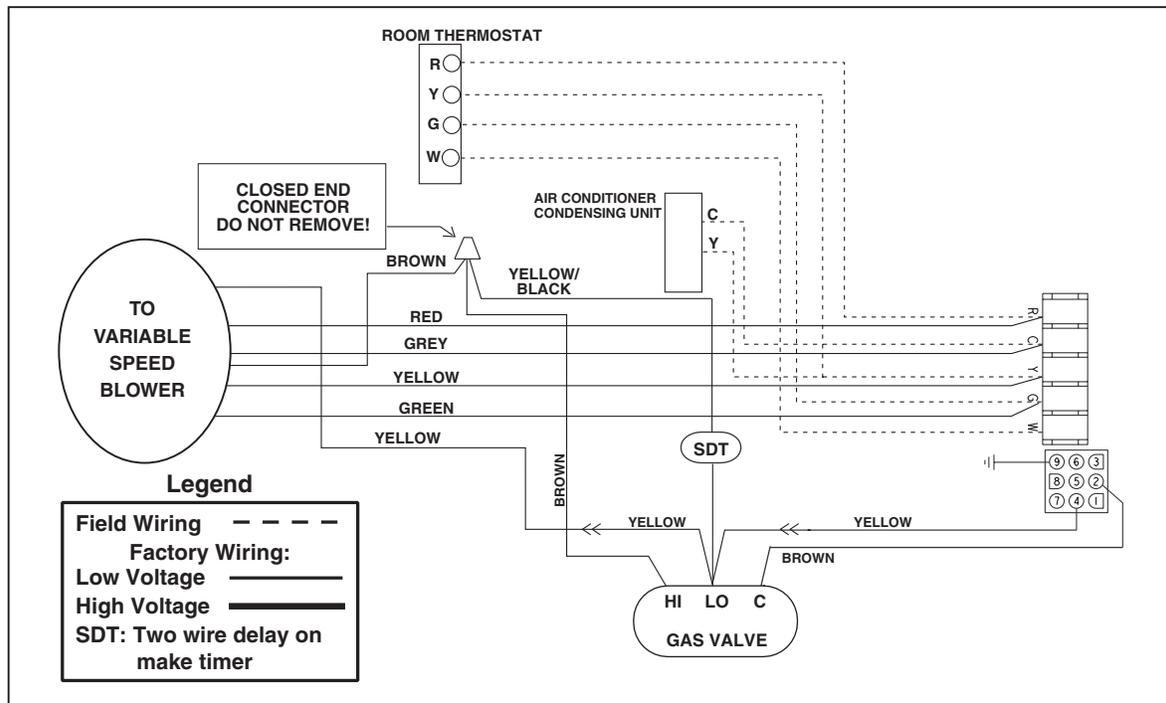

Figure 26e. Timed Two Stage Configuration
5. *Timed staging configuration* – For this installation, the low and high fire on the gas valves are connected in parallel with a delay on make timer (two wire style) in series with the secondary gas valve (See Figure 26e). **CAUTION:** DO NOT CONNECT W2 from thermostat to the furnace wiring when using timed stage configuration. When the low fire on the gas valve is energized, the furnace operates in the low fire mode at a lower blower speed and the timer begins its delay function. If the room thermostat is not satisfied before the timer activates, the furnace will stage to high fire and the blower will operate at a higher speed until the room thermostat is satisfied.